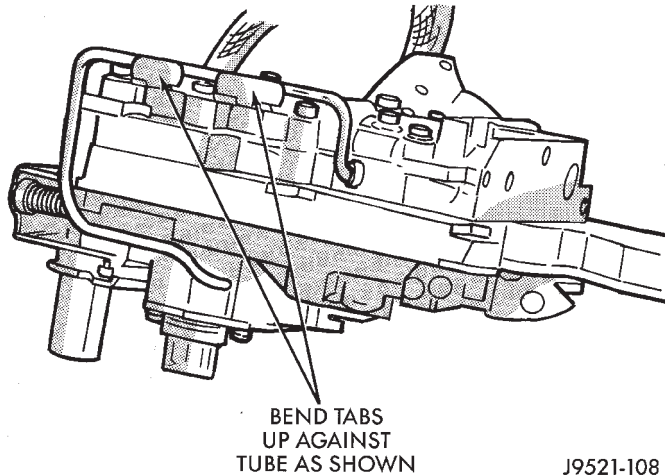

Fig. 80 Securing Boost Valve Tube With Brace Tabs
(7) Bend tube brace tabs up and against tube to hold it in position (Fig. 80).
(8) Tighten all valve body housing screws to 4 N·m (35 in. lbs.) torque after tube and brace are installed. Tighten screws in diagonal pattern starting at center and working outward.